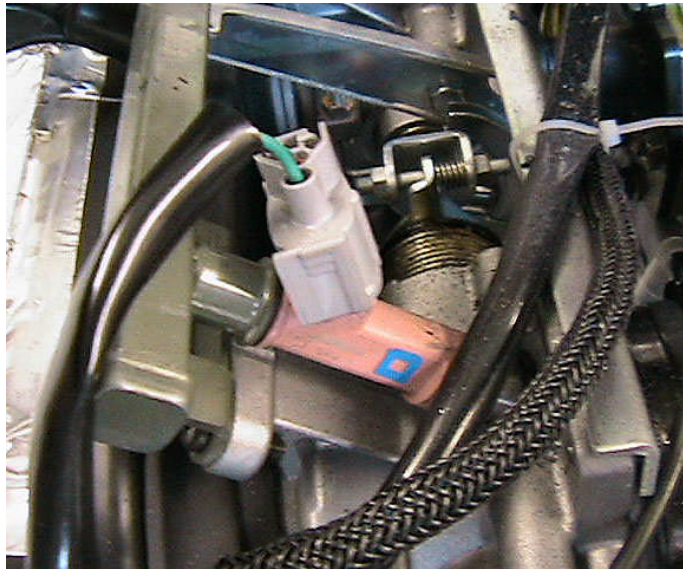

Fig. 1
1. Locate the fuel injectors(Fig 1). Start with the Mag cylinder. Unplug them one cylinder at a time.